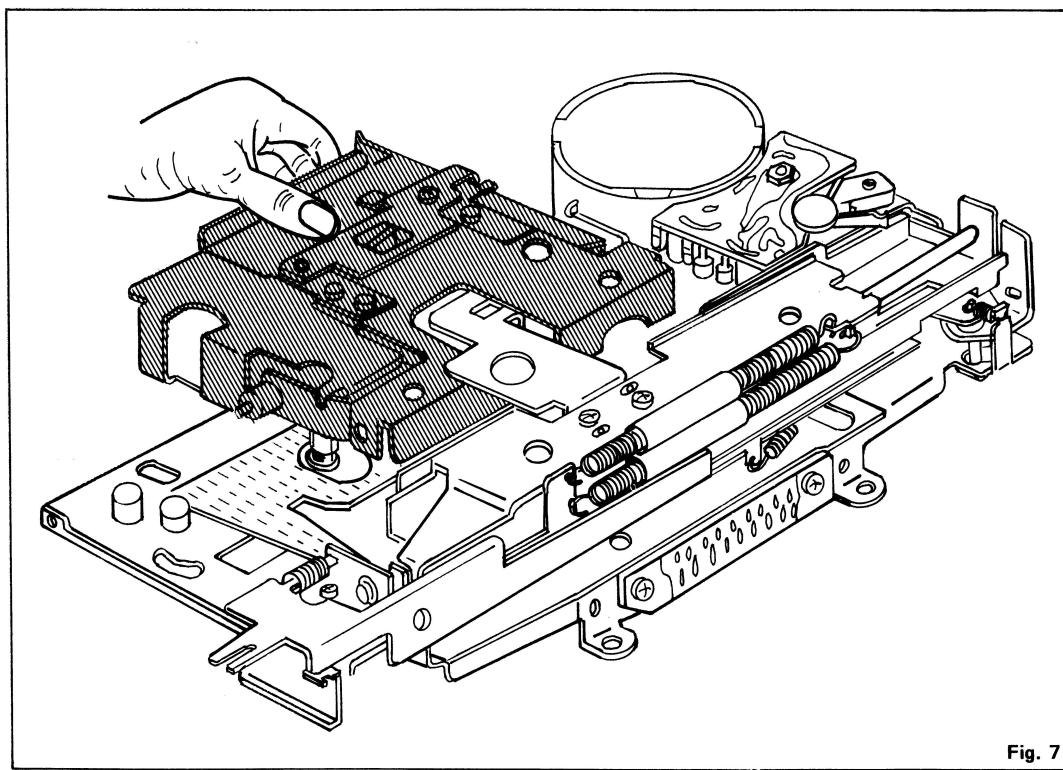

Fig. 7
(See Fig.7, 8)
- 1) Turn the pack guide Ass'y (960-2918-00) at right angles (in the same horizontal) as shown in Fig. 7.
- 2) Next turn the pack guide Ass'y (960-2918-00) in the vertical direction and take off through the head slot of the reel bade Ass'y (960-2926-00) (See Fig.7, 8)